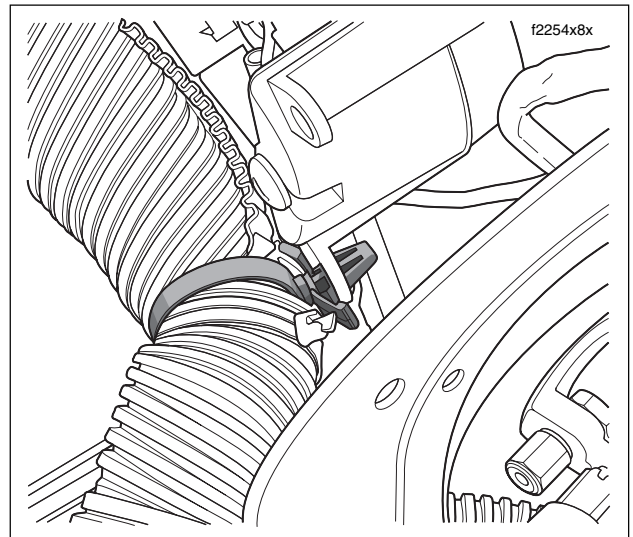

Figure 8-157. Anchor Interconnect Harness in Lower Ears of Speedometer/Tachometer Brackets
3. Release anchors on convoluted tubing of interconnect harness from lower outboard ears of speedometer and tachometer brackets. See Figure 8-157. For best results, squeeze anchor with needle nose pliers before pulling from hole in ear.
2. Install anchors on convoluted tubing of interconnect harness into lower outboard ears of speedometer and tachometer brackets. See Figure 8-157.